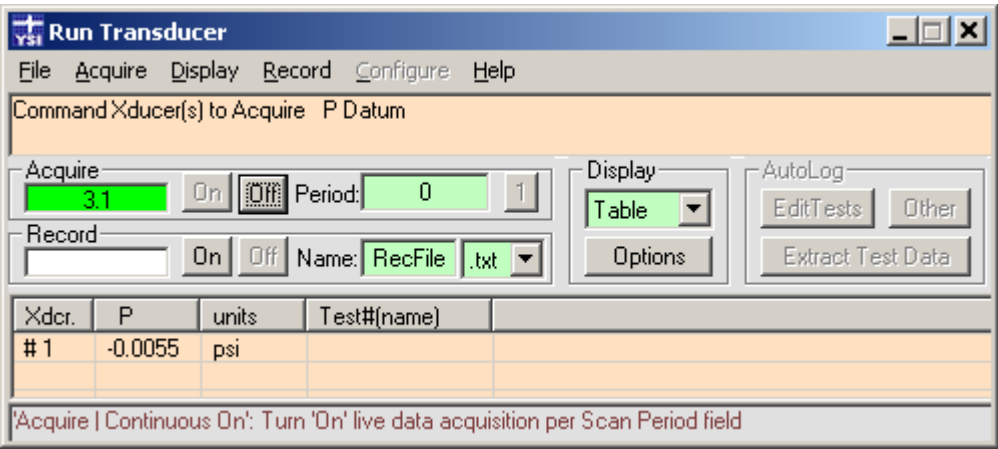

Figure 4.9
In figure 4.9, the Run window is shown with only a single measurement (P) selected. Here, the continuous “live” acquisition cycle (with fastest possible scan period = 0) is shown in progress (i.e., count box = 3.1 and bright green) the count indicates that the 3rd scan, 1st (and only) measurement, is in progress. Since there is only one measurement, the fractional part of the scan counter never changes when the box is green. The message in the status bar (at top) and MenuTip bar (at bottom) changes frequently to also show current state of scan.